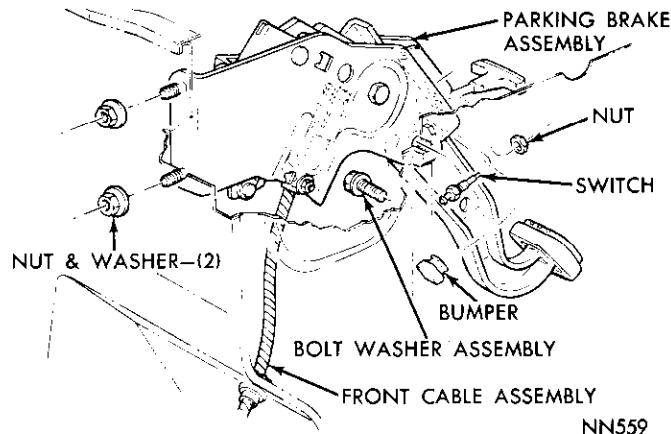

Fig. 2—Parking Brake Pedal
(4) Fold back left front edge of floor mat and remove rubber cable cover from floor pan.
(5) **Depress** parking brake pedal and work brake cable up and out of brake pedal linkage, (Fig. 2).
(6) Using a screw driver force upper end of cable housing and clip down out of pedal assembly bracket.
(7) Remove cable to floor pan clip and work cable and housing assembly up through floor pan.